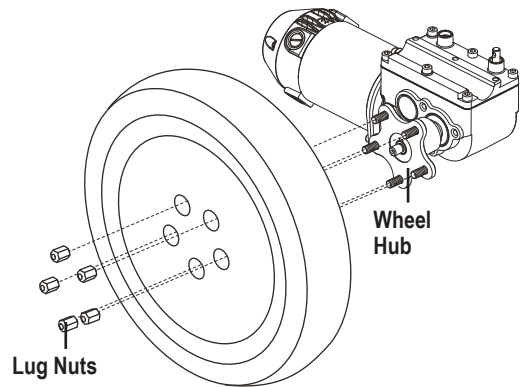

Figure 13. Drive Wheel
4. Remove the five (5) lug nuts from the wheel hub. **See figure 13.**